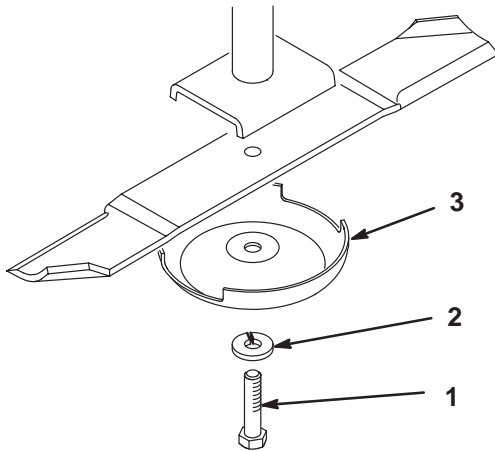

Figure 26
2. Grasp the end of the blade using a rag or thickly padded glove. Remove the blade bolt, lock washer, anti-scalp cup, and blade from the spindle shaft (Fig. 26).